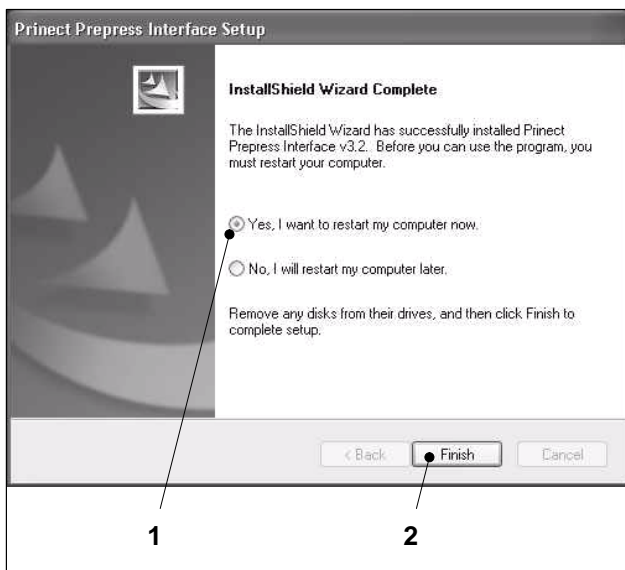

Fig. 27 Restarting the computer
As soon as Princt Prepress Interface has been successfully installed, the next input window opens (Fig. 27).
14. Now restart your computer by clicking on *Yes, I want to restart my computer now* (Fig. 27/1). Click on the *Finish* button (Fig. 27/2). Your computer restarts automatically.